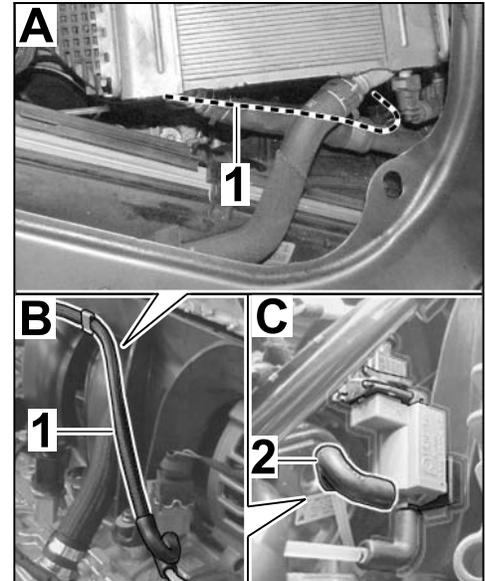

Figure 27
3.7.3 Route vacuum line ⇒ *Figure 27*